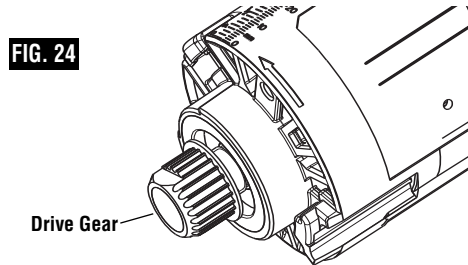

FIG. 24
1. Remove collet from motor and install toothed drive pulley using collet wrench. Make sure that drive gear is fully tightened onto the motor's spindle. (Fig. 24)